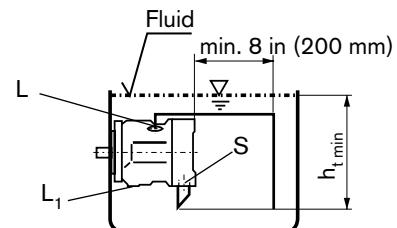

Fig. 3
a) If the min. fluid level is above the top of the pump: plug port " L_1 ", " L " and " S " open; it is recommended to pipe " L " and connect a suction pipe to " S " (see fig. 3)